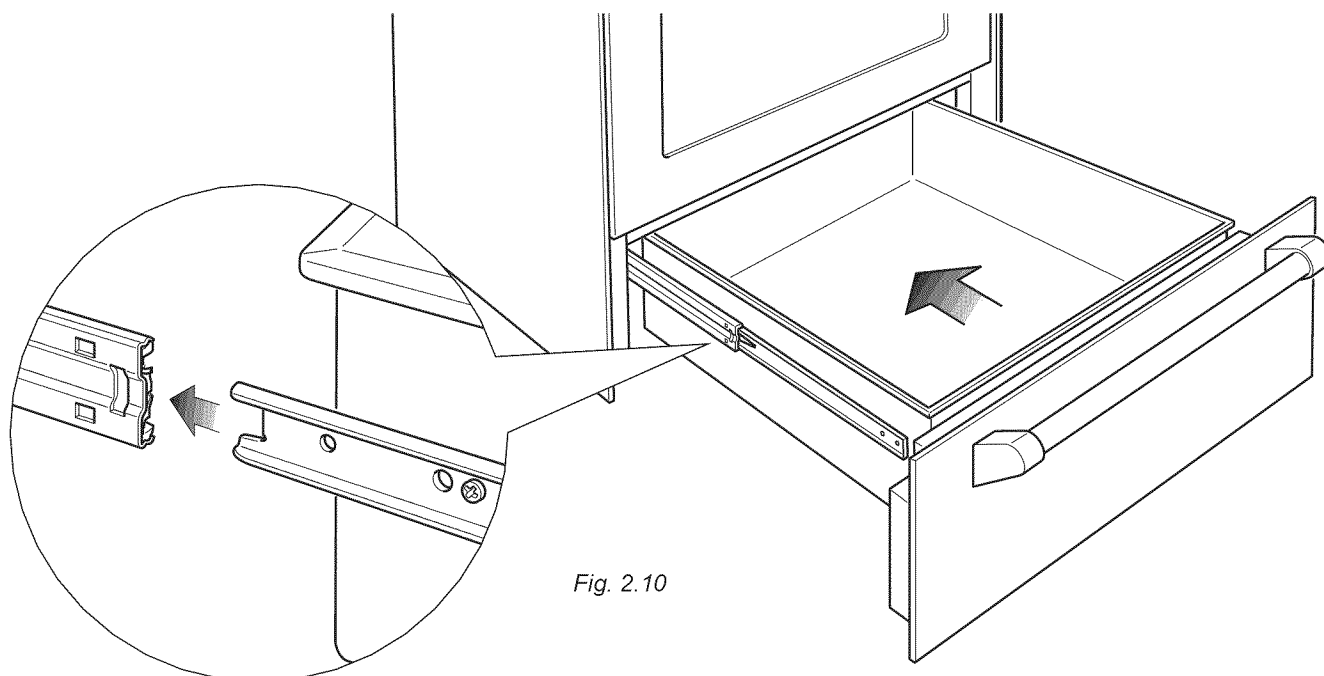

Fig. 2.10
**Fitting the warming drawer (fig. 2.10):**
1. Insert the drawer guides into the range guides (fig. 2.10).